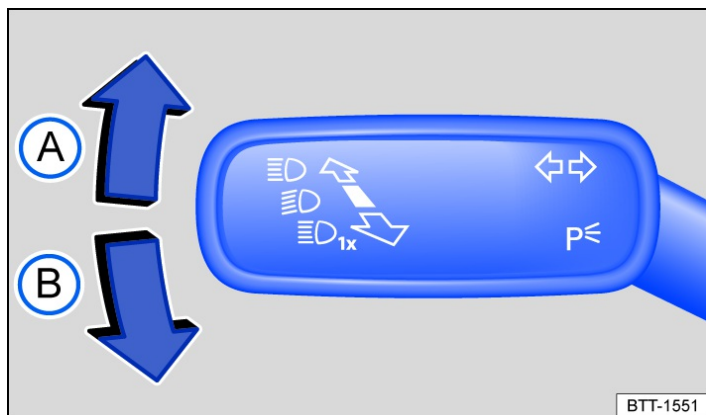

Fig. 1 On the left-hand side of the steering column: turn signal and main beam lever.
- Move the turn signal and main beam lever from the centre position to the following position → Fig. 1:
- (A) Right-hand parking light is switched on.
- (B) Left-hand parking light is switched on.